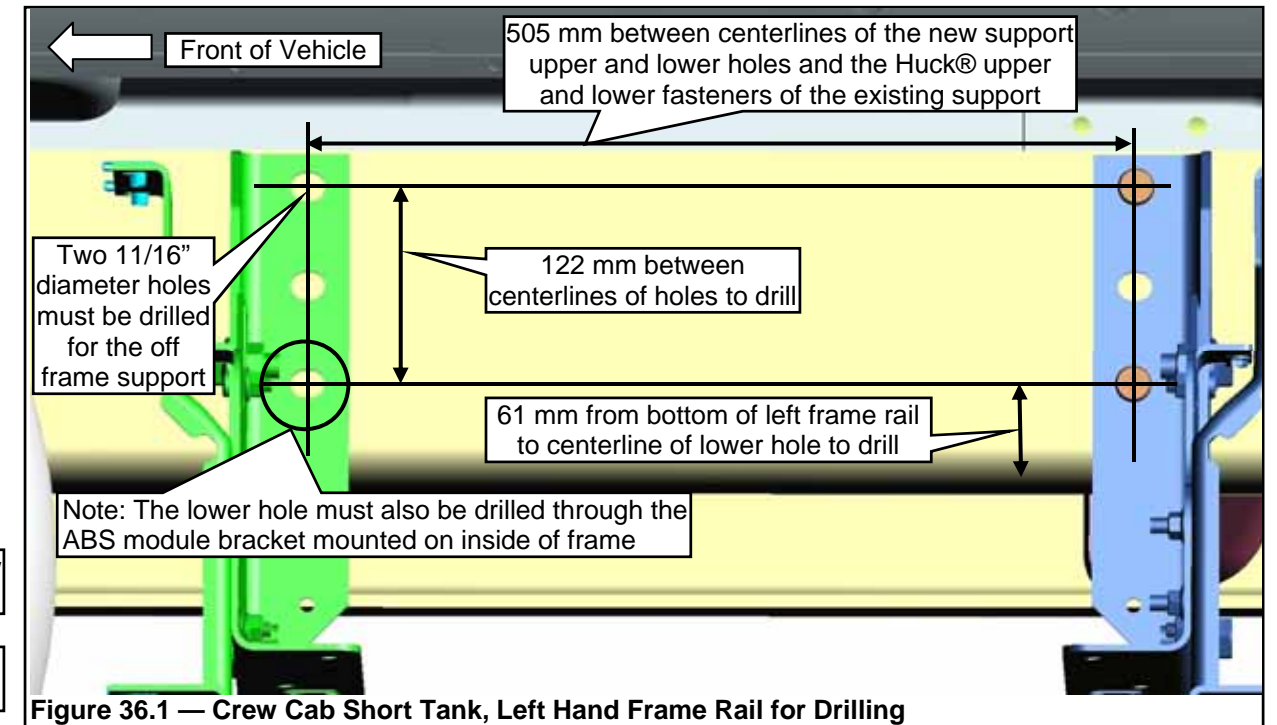

Figure 36.1 — Crew Cab Short Tank, Left Hand Frame Rail for Drilling
- Two holes must be drilled in the left frame rail so that the front of the rear steps can be secured. Mark the locations of the two holes using the measurements shown. Drill the two marked locations in steps to a diameter of 11/16". Note: The lower hole must also be drilled through the ABS module bracket mounted on the inside of the frame rail. Deburr and coat the holes with touch up paint. Refer to Special Tools for more information. **Figure 36.1.**